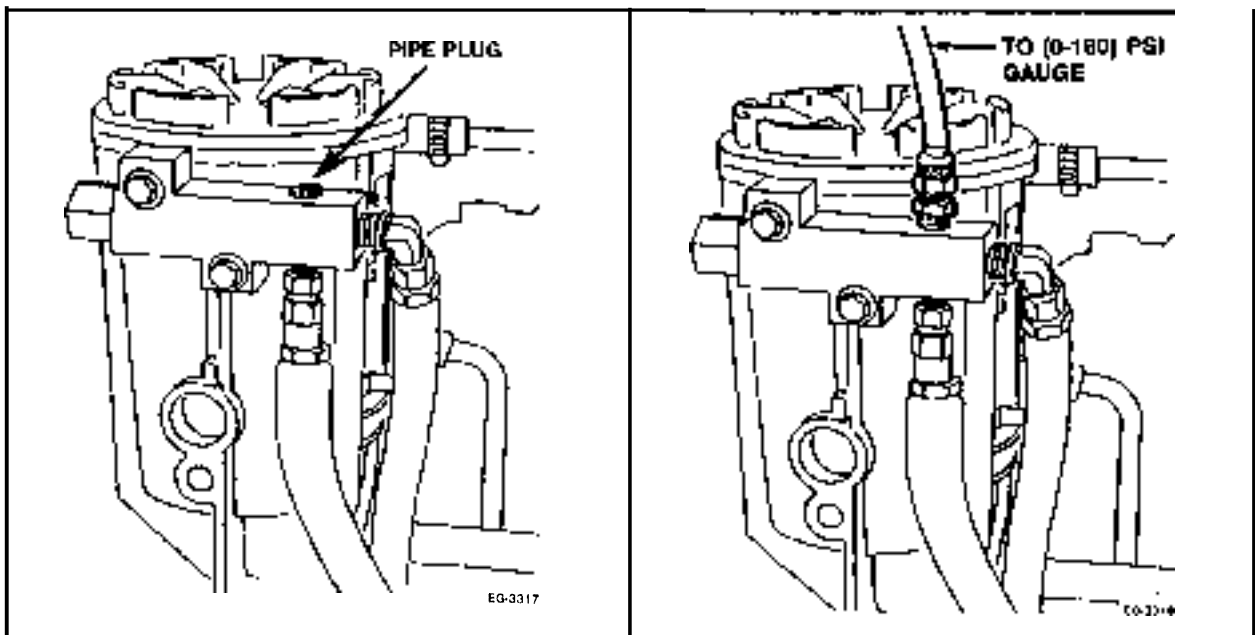

Figure 2.2-14. - Fuel Transfer Pump Pressure Check
1. Remove 1/8" pipe plug located on the fuel regulator block (Figure 2.2-14.). Install 1/8 inch (3 mm) pipe fitting in place of the pipe plug.